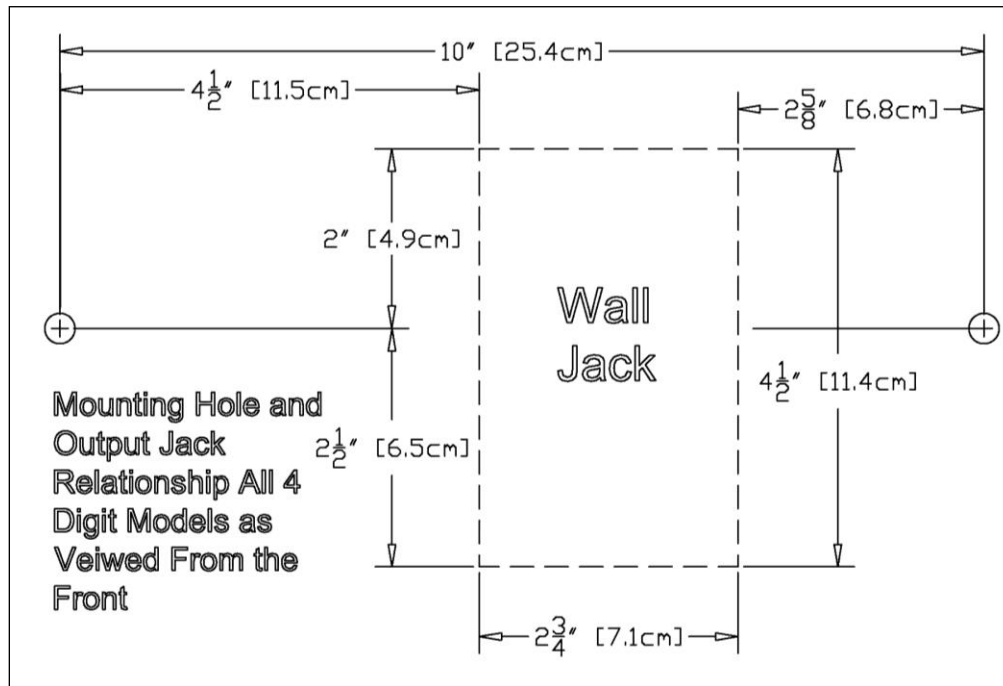
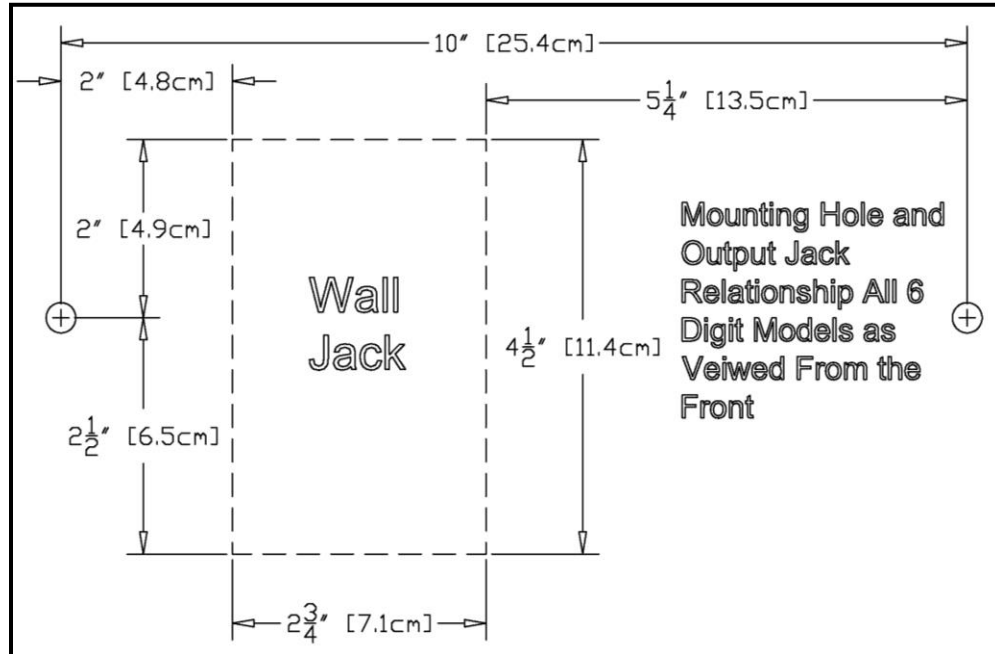

Figure 4: Mounting Template for 4-Digit Clocks
Figure 5: Mounting Template for 6-Digit Clocks
*Note that both models are mounted with a ten inch distance between screw hole centers; however, the best location for the wall jack varies. Refer to the templates in Figure 4 and Figure 5 to ensure that you line the wall jack up with the recess in the back of the unit.*